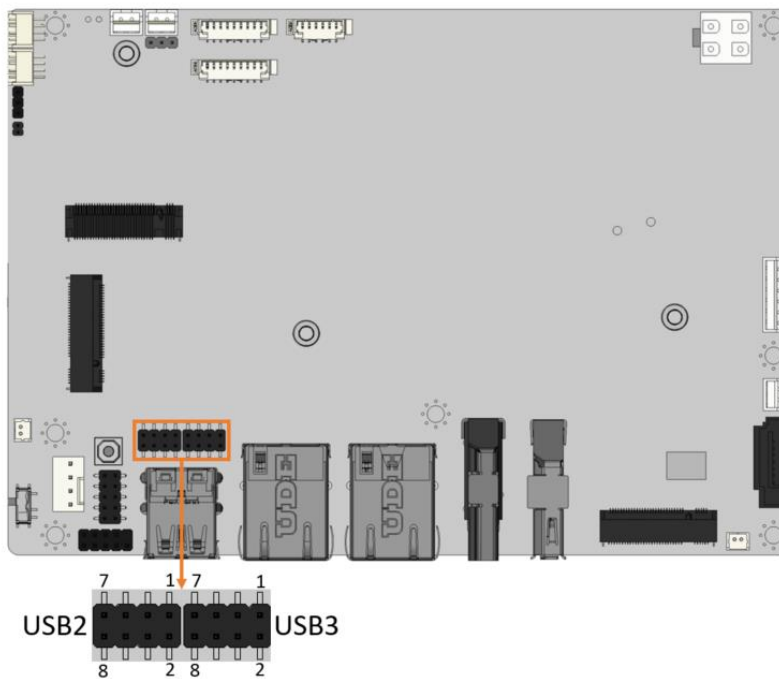

Figure 4-18: Internal USB 2.0 Connectors Locations
- CN Location:** See **Figure 4-18**